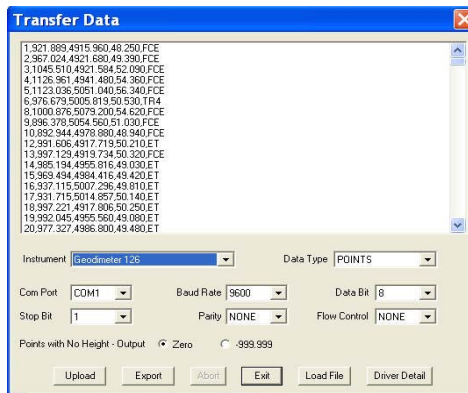

Figure 5-40. Transfer Data – Points Ready for Uploading
The *Transfer Data* dialog box appears. (Figure 5-40)
3. Set the parameters on the *Transfer Data* dialog box (Figure 5-40) to match the communication parameters defined on the data recorder. You may need to refer to the user manual supplied by the data recorder manufacturer. MAGNET Office saves these settings for future upload sessions. For field descriptions, see Table 5-10 on page 5-37.